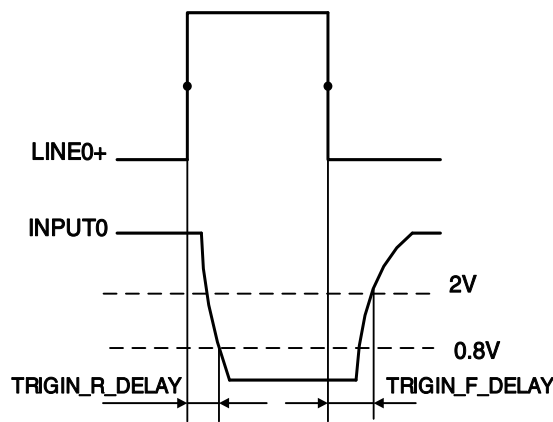

Figure 7-8 Parameter of opto-isolated input circuit
- Rising edge delay: <math><50\mu\text{s}</math> (0°C~45°C), parameter description as shown in Figure 7-8
- Falling edge delay: <math><50\mu\text{s}</math> (0°C~45°C), parameter description as shown in Figure 7-8